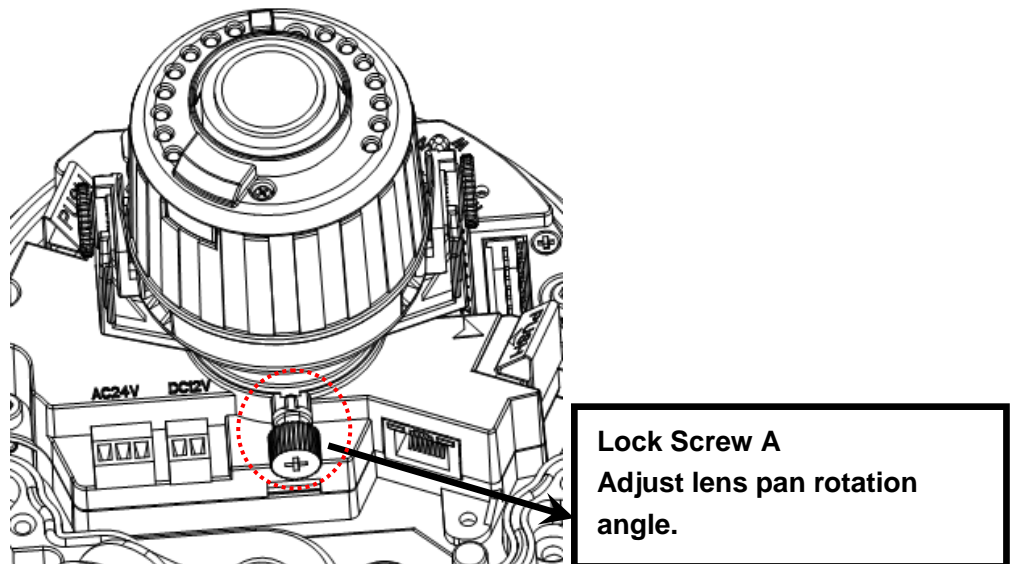
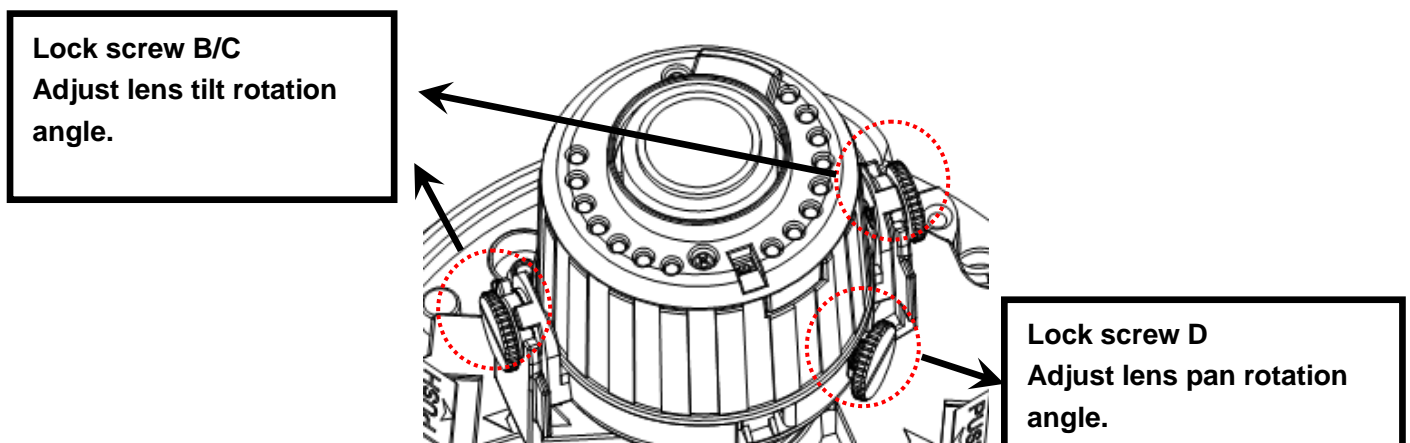

Figure 3-5 Installation 4
Figure 3-6 Installation 5
b) Lens pan rotation angle setup. Please refer to Figure 3-5 to unfasten the lock screw A and adjust the pan monitor angle to the proper position. Then fix the lock screw A. The pan angle ranges from 0° ~ $+350^{\circ}$.
c). Lens tilt rotation angle. Please refer to Figure 3-6 to unfasten the lock screw B and lock screw C and adjust the tilt monitor angle to the proper position. Then fix the lock screw B and lock screw C. The tilt angle ranges from -23° ~ $+73^{\circ}$.
d). Image pan rotation angle setup. Please refer to Figure 3-6 to turn lock screw D to adjust the video pan angle. Then fix the lock screw B and C. The video pan angle ranges from 0° ~ $+350^{\circ}$.
Please note Figure 3-5 and Figure 3-6 is based on the IR motorized zoom camera. For the IR manual zoom camera and non-IR series product, the lock screw position and the lens angle adjustment are the same.